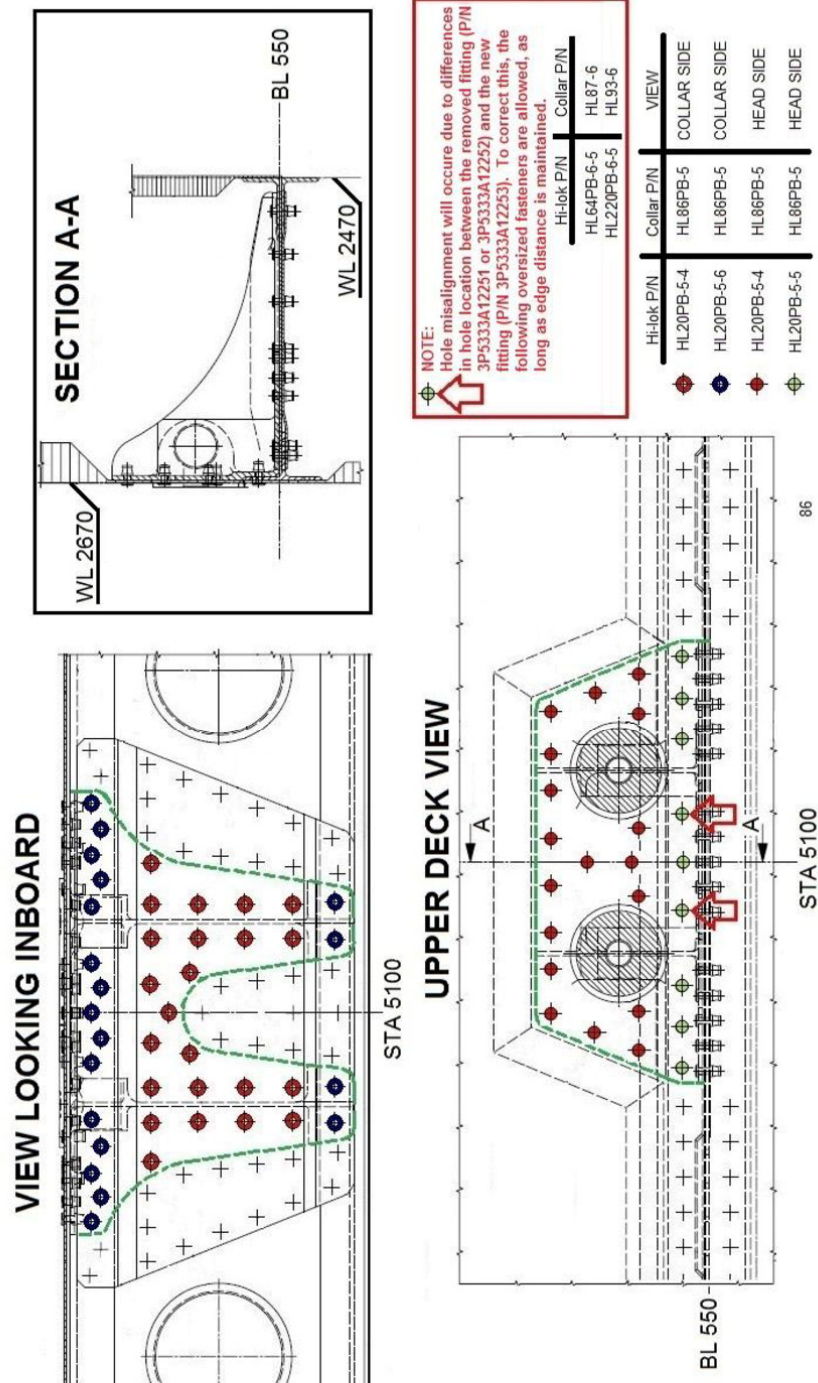

Figure 8 – MGB Middle Reinforcement Removal and Install
- 23.3 While wet, lock the fitting in place with the alignment tool and fasten the fitting with all the necessary fasteners (Spare Ref.4,5,6,7,8,9,10,11), as given in (Fig. 8).